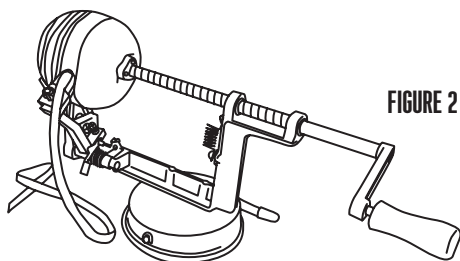

FIGURE 2
5. Turn the Handle clockwise to start peeling the apple (FIGURE 2).